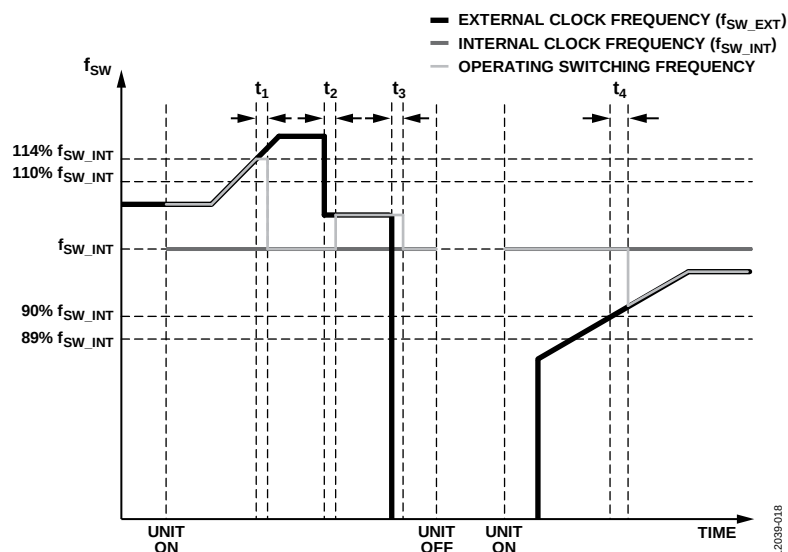

Figure 15. Synchronization Operation
2. If all periods of the most recent 64 consecutive cycles of the external clocks fall within 90% to 110% of the internal switching clock period, the ADP1050 uses the latest current cycle as the synchronization reference, and the period of the external clock is identified. This interval is  $t_2$  or  $t_4$ , as shown in Figure 15. Otherwise, the ADP1050 discards this cycle and looks for the next cycle (frequency capture mode).
This interval is  $t_1$  or  $t_3$ , as shown in Figure 15.
Figure 15 shows the synchronization operation diagram. The internal frequency,  $f_{SW\_INT}$ , is the internal free-running frequency of the ADP1050. Before the synchronization is locked, the ADP1050 runs at  $f_{SW\_INT}$ . The external frequency,  $f_{SW\_EXT}$ , is the frequency of the external clock to which the ADP1050 must synchronize. After synchronization is locked, the ADP1050 runs at  $f_{SW\_EXT}$ .